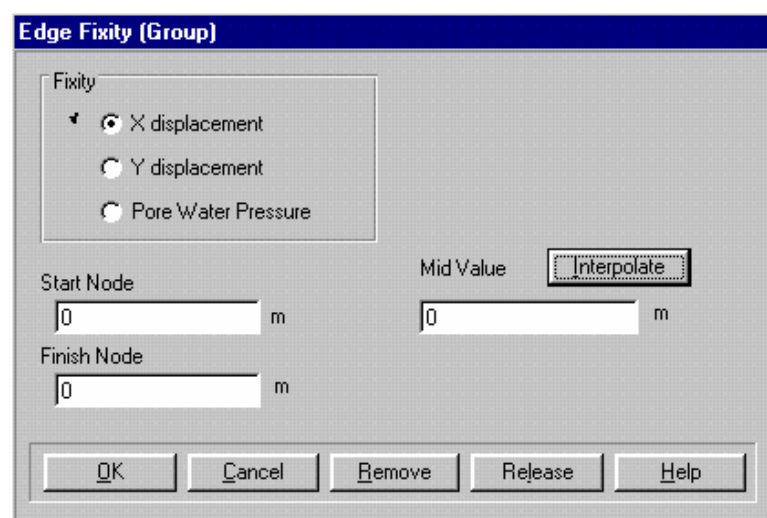

Figure 5-18: Defining Edge Fixities
- Step 7** The Edge Fixity dialogue box should now look like Figure 5-18. Click on **OK** to exit, once you have finished.